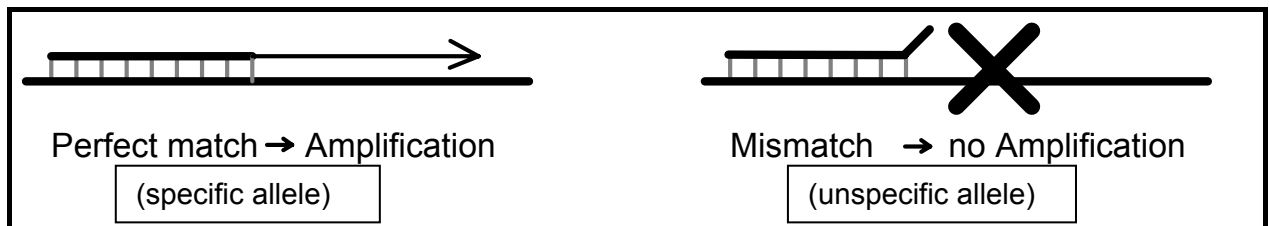

Fig. 1: Principle of SSP-PCR
The detection of the single KIR receptors / KIR HLA ligandes is performed by applying the PCR-SSP^① (*PCR-sequence-specific primers*) method (see Fig. 1) (13, 15).